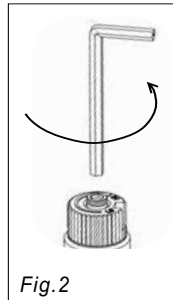

Fig. 2
- 6) Insert a 5/32" or 4mm Allen wrench into the hexagonal key-way of the screw (Fig. 2), rotate it counter-clockwise until it is free and extract it.